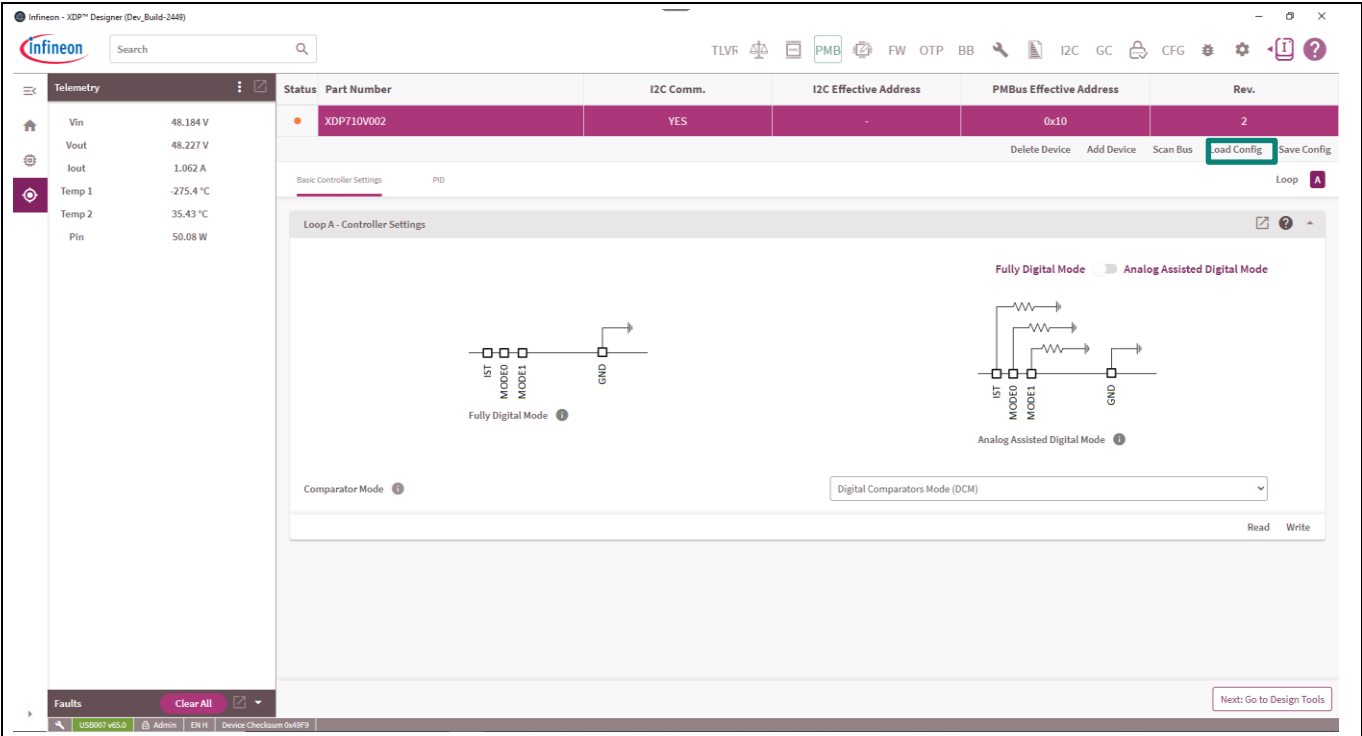

Figure 34 Select Load Config option
- Click **Load Config**, as shown in Figure 34.